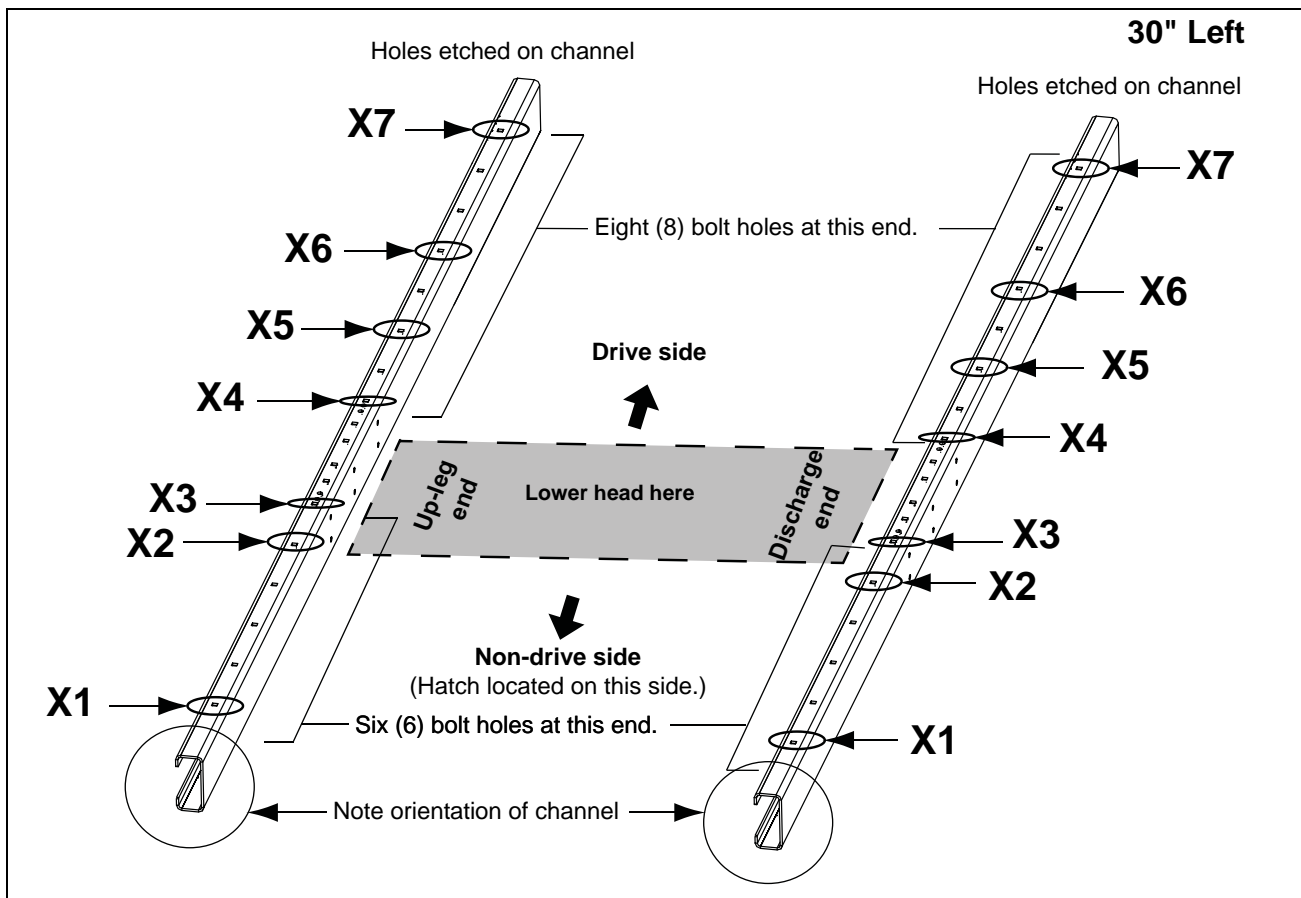
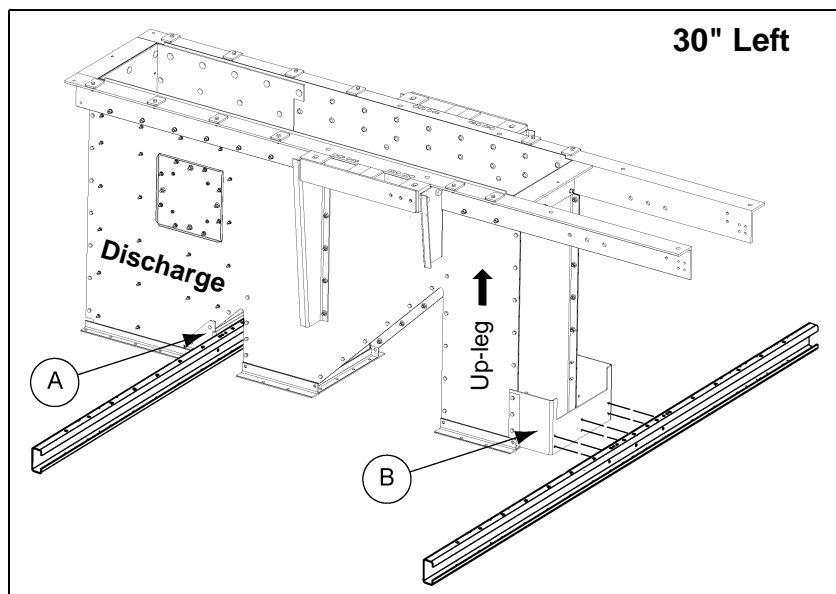

Figure 9B 30" Left Side Drive Channel Position
Figure 9C 30" Left Drive - Cross Deck Support Channels to Lower Head Brackets
(See Figure 9B on Page 69.)
3. Attach cross deck support channels (HP36CDSCX) to the top-most set of holes of the lower head brackets (HSP36130) using 3/8" x 1" bolts and nuts. *(See Figure 9C on Page 69.)*
- *NOTE:** *The channels MUST be oriented as shown in Figure 9B and Figure 9C on Page 69 in order for the decking and subsequent assembly to be done correctly.*